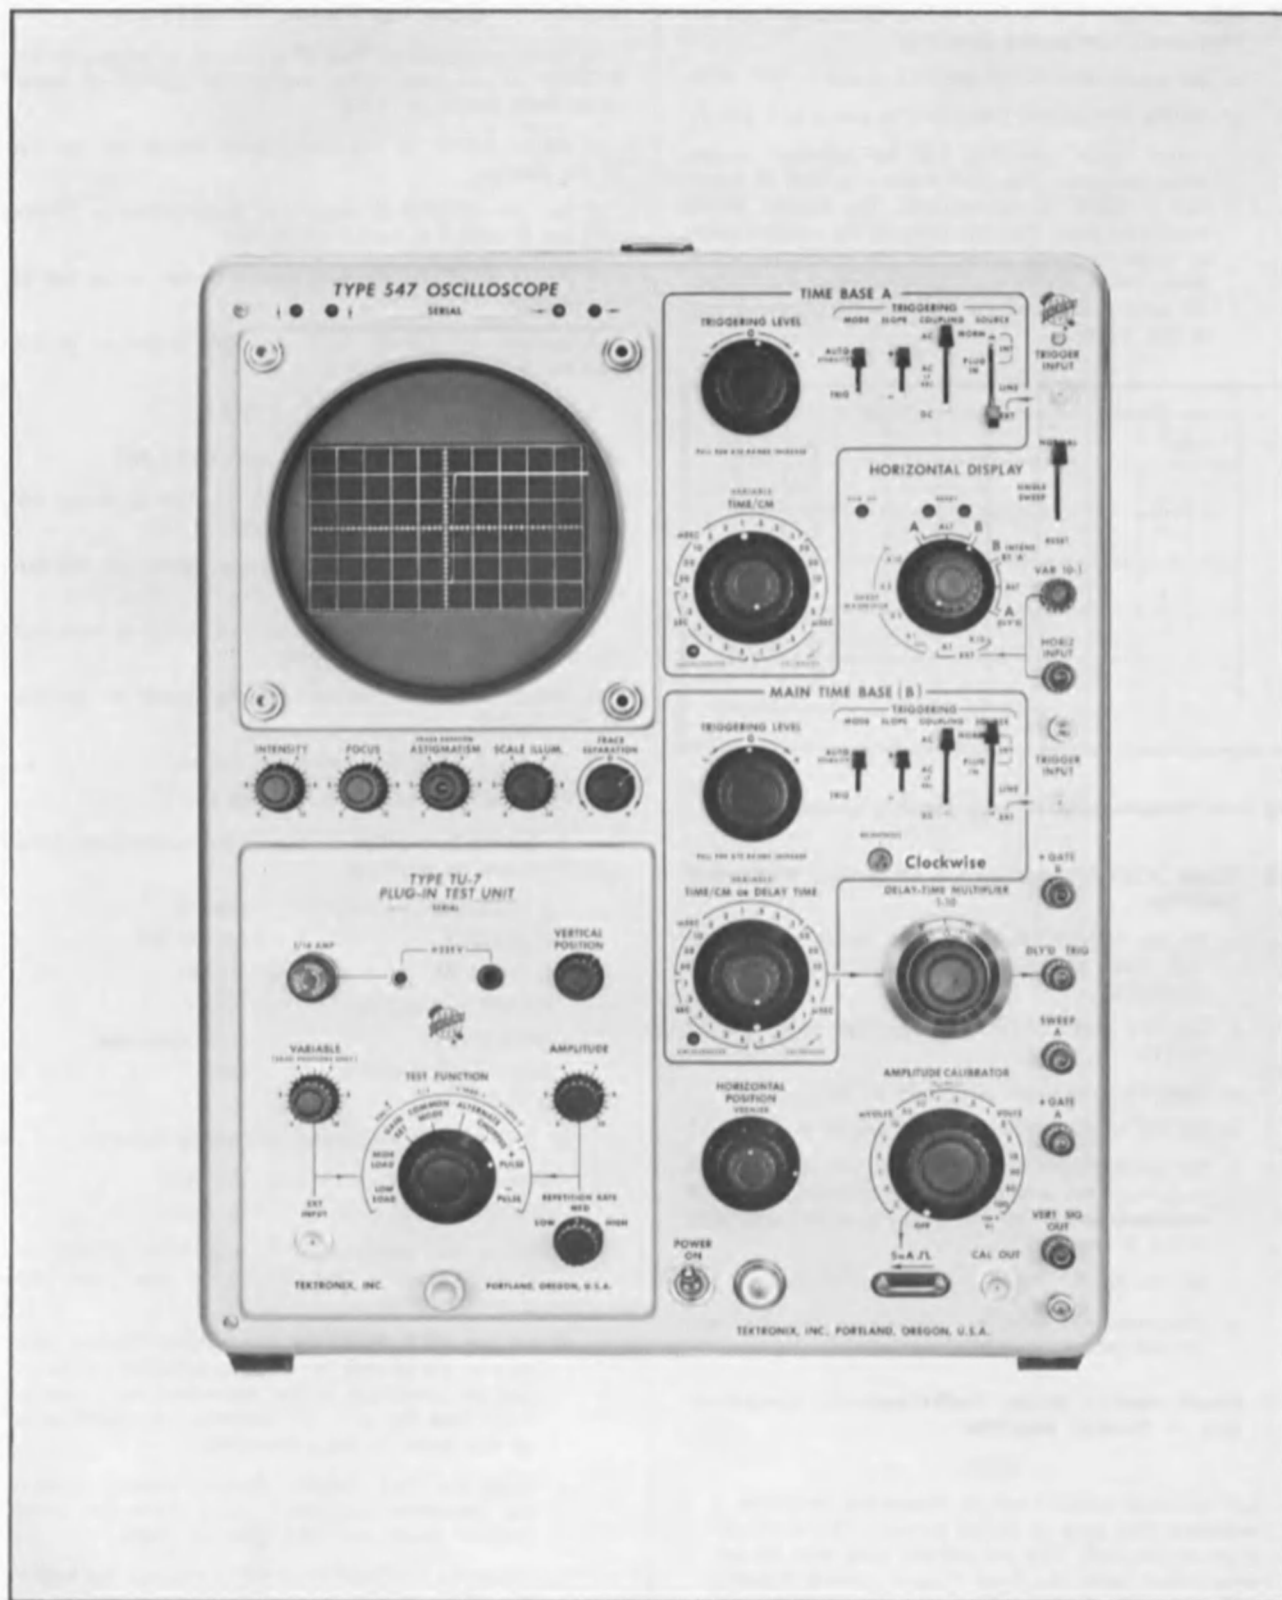

Fig. 5-17. Front-panel control settings at the completion of step 59d.
- Set the TU-7 Amplitude and Vertical Position controls so the display is vertically centered on the crt and the amplitude of the step-waveform is exactly 4 cm. (See Fig. 5-17 for complete front-panel setup at this point in the procedure.)